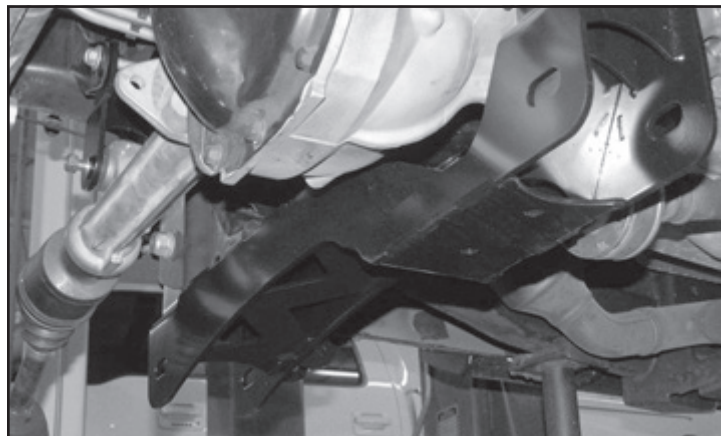

FIGURE 20 - STEP 23
23. Locate the Fabtech rear crossmember (FT30376BK). Install the rear crossmember in the factory rear lower control arm pockets. Mount the crossmember using the factory control arm pivot hardware. Leave all hardware loose. All the tabs on the face of the crossmember should be pointed to the rear of the vehicle. **SEE FIGURE 20**